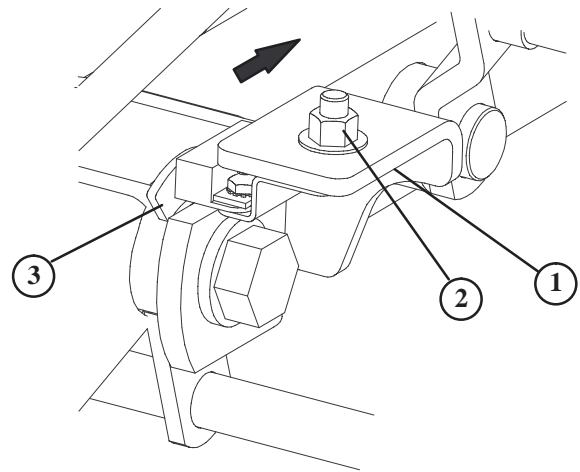

Figure 14
- Loosen the carriage bolt nut securing the lift arm switch bracket to the No. 4 lift arm (left front) (Fig. 14).